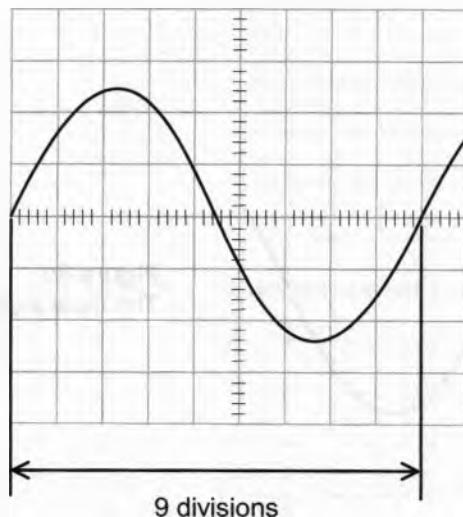

Figure 10
5. Count the number of divisions from the first vertical line to the vertical line where the cycle starts again (see Figure 10).